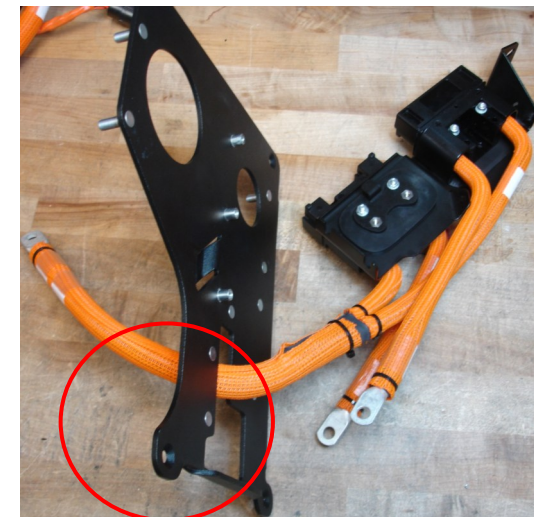

Figure 8
3.5. Attach MODULE SEPERATOR BLOCK (ITEM 8.1) to XMX MODULE SUPPORT PLATFORM using (3) M5x8 BHCS (ITEM 8.2).
4. Take 'B-' wire from X BIKE HARNESS (ITEM 7), route through XMX MODULE SUPPORT PLATFORM (ITEM 8). See FIGURE 8.